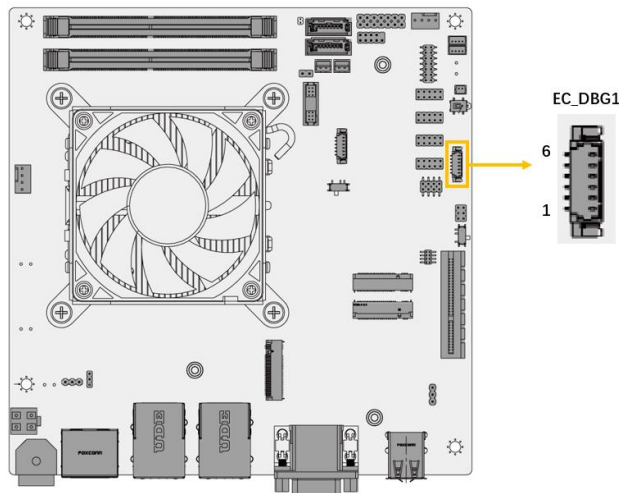

Figure 3-7: EC Debug Connector Location
- CN Location:** See Figure 3-7